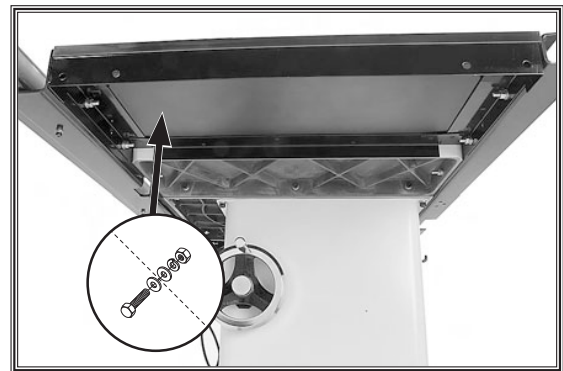

Figure 21. Model W1819 extension table installed.
1. Install the extension table between the front and rear rails with the four M6-1 x 16 hex bolts, eight 6mm flat washers, four 6mm lock washers, and four M6-1 hex nuts, as shown in **Figure 21**.